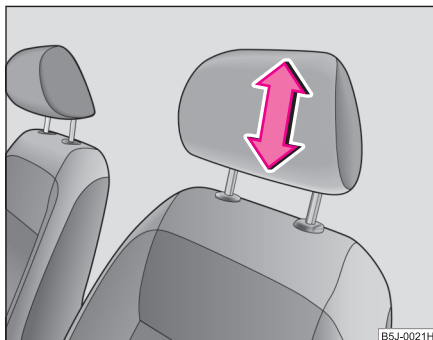

Fig. 50 Adjusting head restraint
- Grasp the side of the head restraint with both hands and push the head restraint in the direction of axle of the metal guide rods, in the direction of arrow ⇒ page 71, fig. 50 to the top or to the bottom.